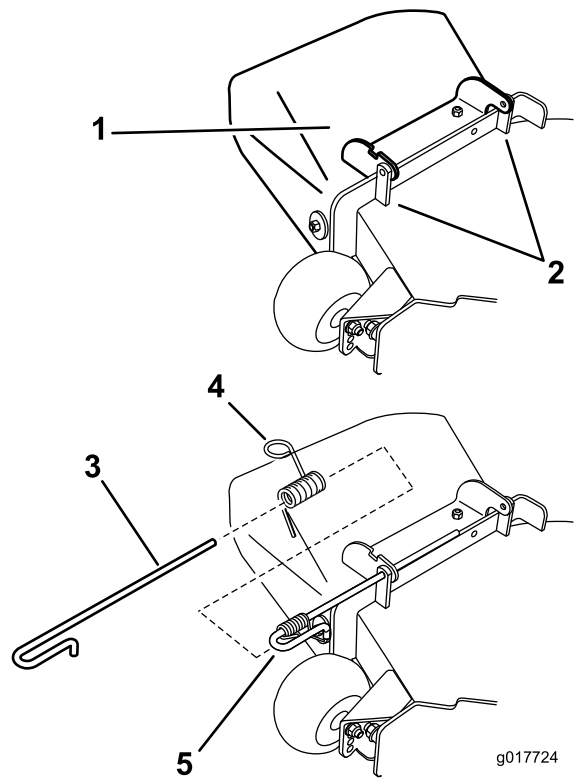

Figure 71
1. Disengage the spring from the notch in the deflector bracket and slide the rod out of the welded deck brackets, spring, and discharge deflector (Figure 71).
3. Position the new discharge deflector assembly with the bracket ends between the welded brackets on the deck as shown in Figure 71.